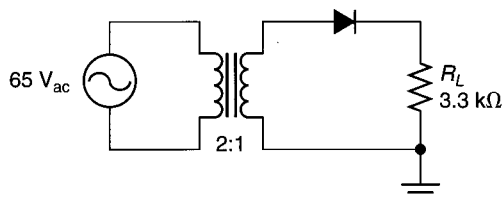

FIGURE 3.52
1. Determine the ac secondary voltage for the circuit shown in Figure 3.52.
3. Determine the peak secondary voltage for the circuit shown in Figure 3.52.
7. Determine the peak load voltage for the circuit shown in Figure 3.52.
11. Determine the average (dc) load voltage for the circuit shown in Figure 3.52.
14. Assume that the diode in Figure 3.52 is reversed. Determine the new values of  $V_{L(pk)}$ ,  $V_{ave}$ , and  $I_{ave}$  for the circuit.